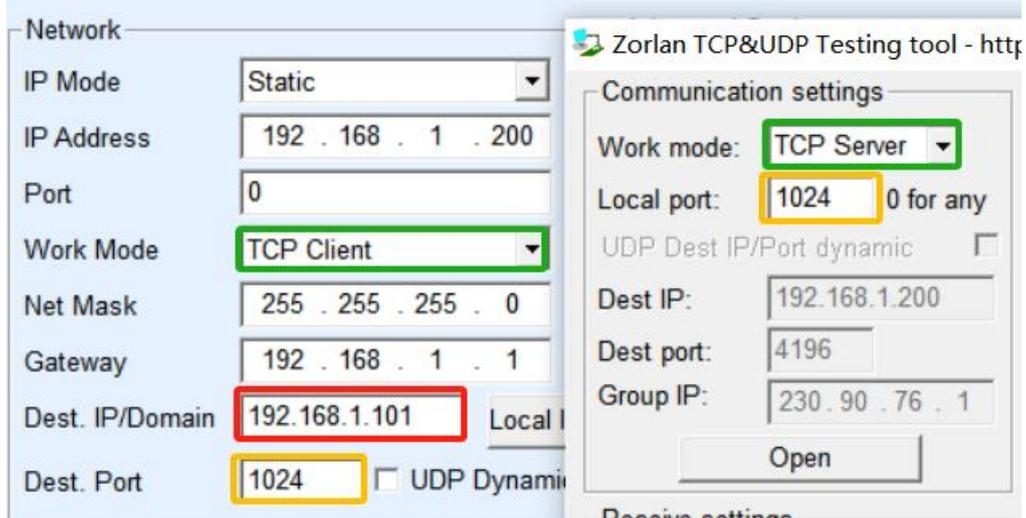

Figure 21 Serial server as client
When the serial server is the client, there must be three relationships, as shown in Figure 21. (1) Working mode: The working mode of the serial port server is the server mode of the network tool corresponding to the client. (2)IP address: The destination IP address of the serial port server must be the IP address of the computer where the network tool is located. (3) Port: The destination port of the serial port server must be the local port of the network tool. After this setting, the serial port server can automatically connect to the network tool and send and receive data after the connection is established.